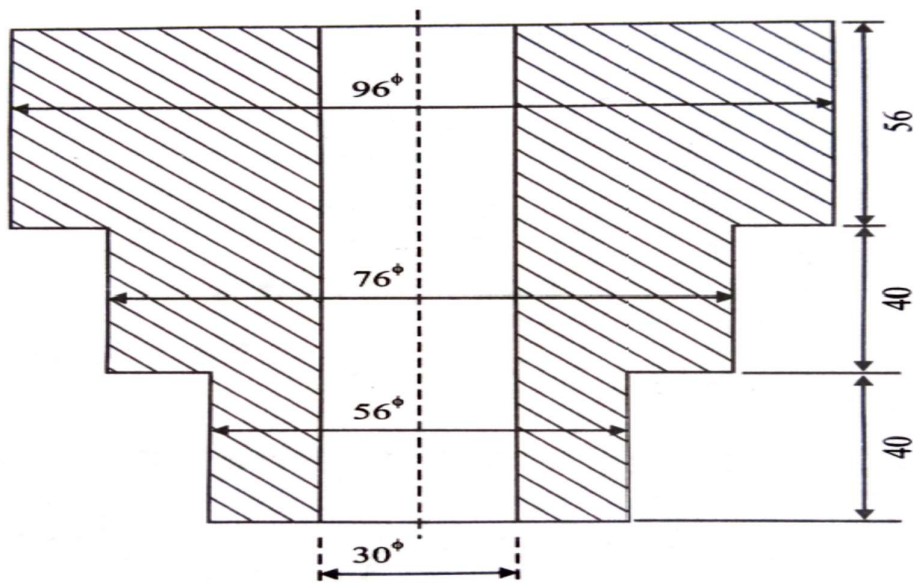

Fig 5.2
- 12 (b) (i) A cast iron component is to be manufactured as per Fig. 5.2. Estimate the selling price per piece from the following data: (8)